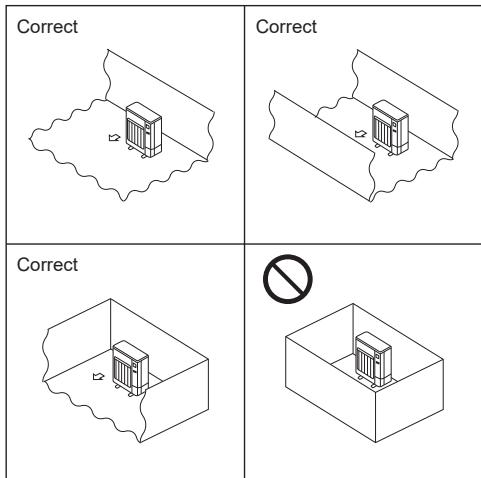

Fig. 2-2
- Install outdoor units in a place where at least one of the four sides is open, and in a sufficiently large space without depressions. (Fig: 2-2)